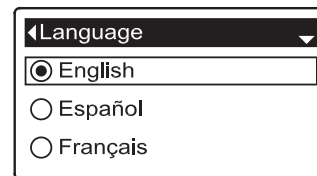

FIG. 49
5. Press the SELECT (O) button to display the Language menu (See Figure 49).
6. If the desired language already has a black dot next to it (See Figure 49), go to Step 7. Otherwise, press the DOWN (▼) or UP (▲) buttons to scroll to the desired language, then press SELECT (O) to choose it. The choices are: English, Spanish, French, Italian, German, Dutch, Polish, Russian, Hungarian, Turkish, Lithuanian, Greek or Romanian.